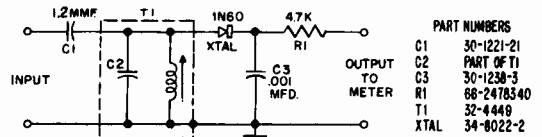

Fig. 1. 4.5 mc. Detector Tube
- (1) Inject 4.5 MC AM signal into L3Y or use station signal.
- (2) Connect 4.5 MC detector (see circuit figure 1) to L17Y (pin 7 of CRT).